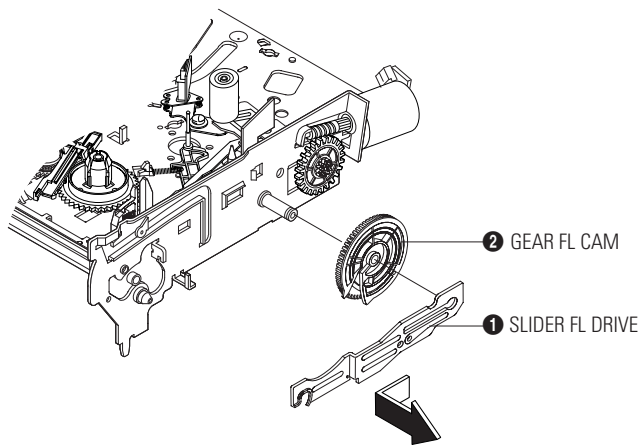

Fig. 3-6 Slider FL Drive Removal
- 1) Pull the Slider FL Drive ❶ to the front direction.
- 2) Remove the Slider FL Drive ❶ in the direction of arrow. (Refer to Fig. 3-6)
- 3) Remove the Gear FL cam ❷.
**Note :** When reinstalling be sure to reassemble Slider FL drive ❶ after you insert the Boss of Lever FL ARM-R in Groove of Slider Fl drive ❶.
**Assembly :** Align the Gear FL Cam ❶ with the Gear worm wheel Post as shown drawing. (Refer to Timing point)